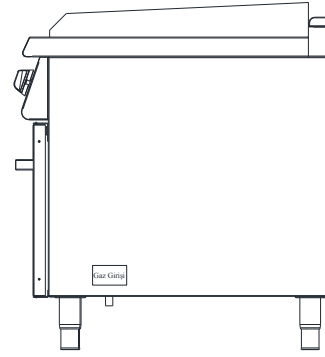

Figure 2
- Gas inlets of the device are indicated with a (Figure 2) label on device body.